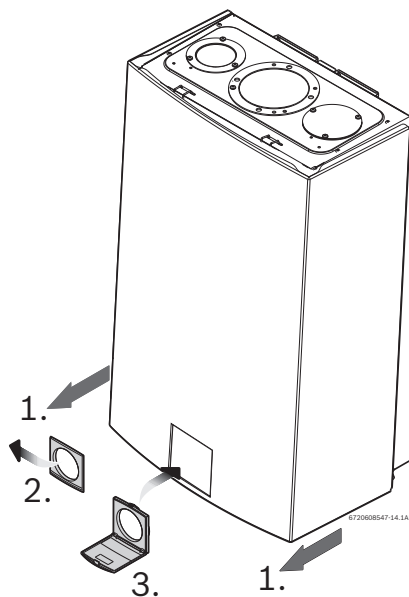

Fig. 3 Replace the control panel shield
- Remove the front cover panel and replace the original control panel shield with shield provided in the kit, see Fig. 3.
- ▶ Start and operate the water heater according to the water heater installation manual. NOTE: Open the control panel shield to access the controls of the heater, see Fig. 3.